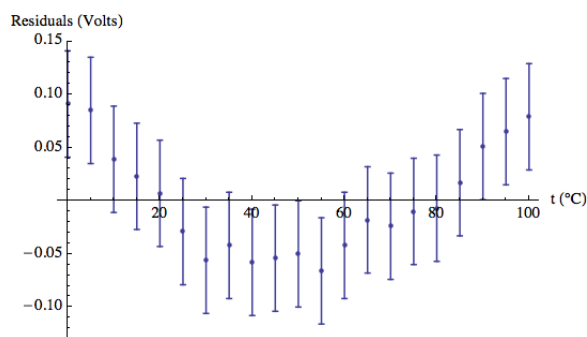

Figure 8
- Figure 8 shows a plot of the residuals. Now what do you think of the fit?